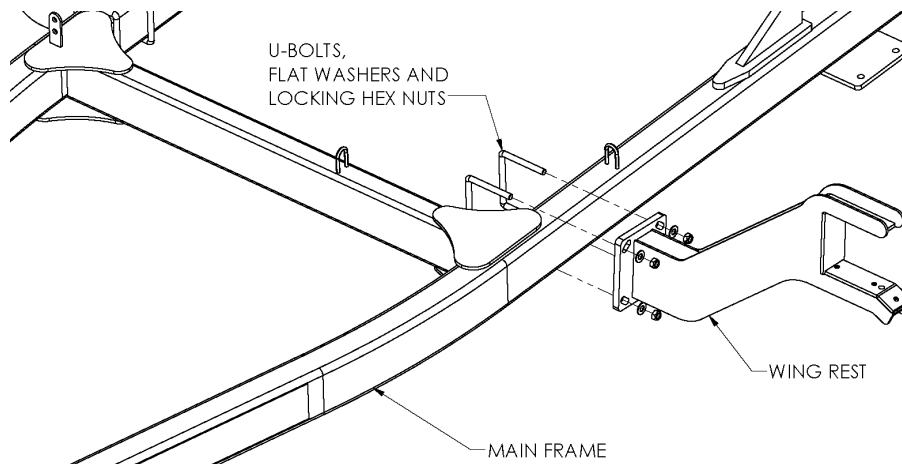

Figure 5
1. Attach the wing rests (12474) for HDL-1124 – 38, or (12477) for HDL-1140 – 60, to the square frame. Refer to Figure 5. Use four (BU-5865) 5/8" x 6" x 5 1/2" U-Bolts for HDL-1124 – 1138, four (BU-5887) 5/8" x 8" x 7 1/2" for HDL-1140 – 1150 and four (11969) 5/8" x 8" x 9 1/2" U-Bolts for HDL-1152 – 1160. Secure with flat washers, and lock nuts. Do not tighten yet.